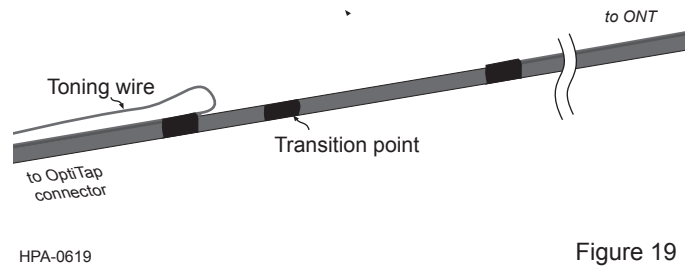

Figure 19
- d. Use side cutters to cut the toning wire at the tape wrap at ONT-end of the cable assembly and fold the wire back over itself (Figure 19).